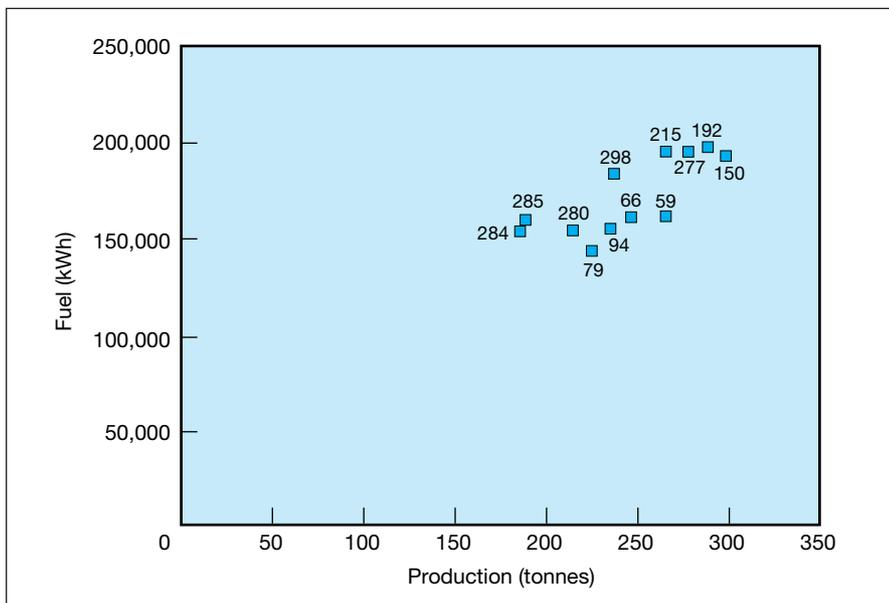

Fig 13 Energy vs. production
7. Plot the graph of energy against variable2 (Fig 13). Deciding where to draw the best fit line here, especially the slope, is likely to be more difficult than on the previous graph. If straightforward, proceed as before to calculate the line,  $\text{energy} = c_2 + (m_2 \times \text{variable}_2)$ , and then to step 13 overleaf.
A graph of energy vs. production is shown in Fig 13. There are two points far apart with degree day values of 280 and 277, but, comparing the points at 284 and 285 with 280 is confusing enough to make it advisable to try something else.